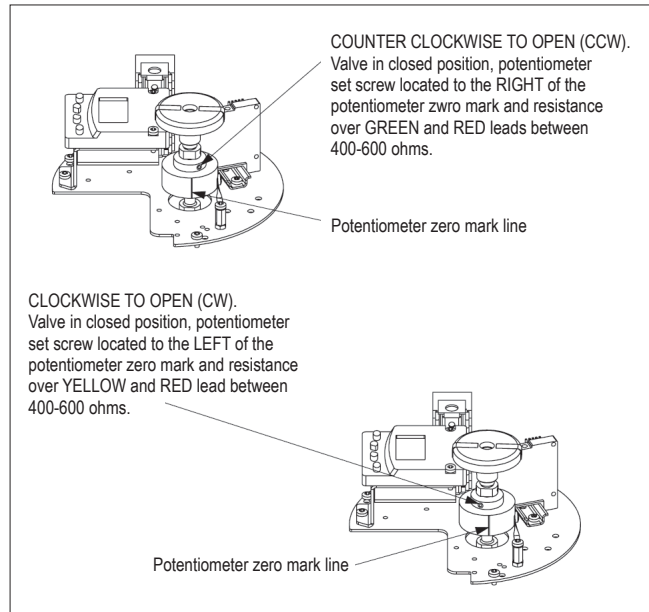

Fig. 38 Potentiometer operation.
- Adjust the potentiometer unit to correct angle by rotating the inner section of the potentiometer (smaller diameter cylindrical part on top side of the potentiometer unit). The correct angle depends on the valve operation orientation; CCW or CW to open (see Fig. 38). The centerline mark on the potentiometer side helps aligning the potentiometer for initial position. Make sure that the valve and axis stay stationary in closed position when adjusting the potentiometer orientation.